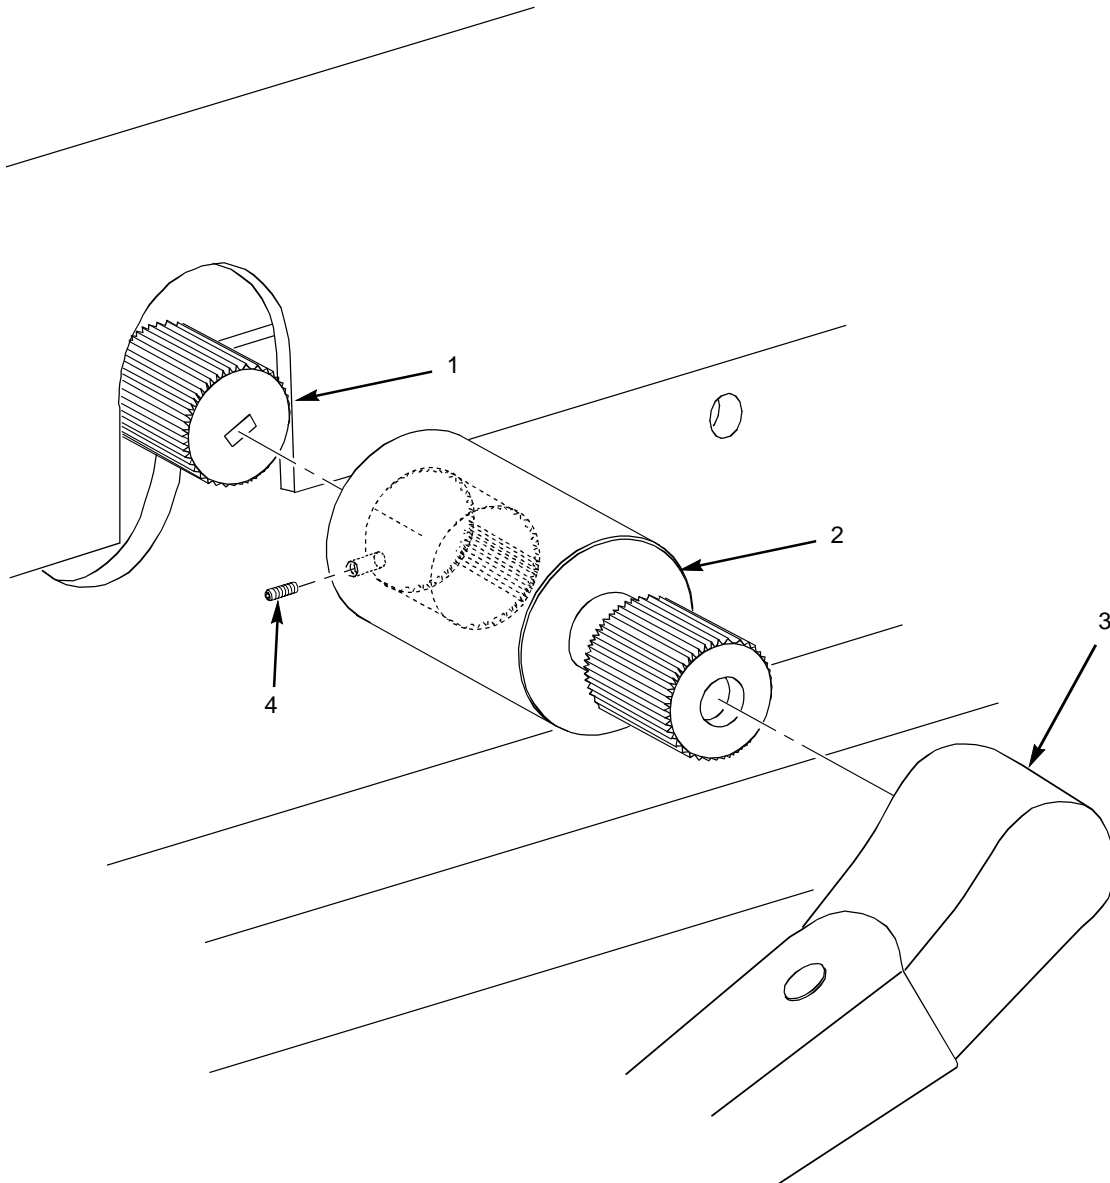

Figure 1-29. Wiper Arm Extension Installation (2 and 4 Door)
- 5) Install wiper arm extension as follows (see figure 1-29).
- a. Install wiper windshield arm (3) onto splines of wiper arm extension (2).
- b. Align and install wiper arm extension (2) with wiper windshield arm (3) onto manual control lever spline (1) with the wiper blade in the OFF position. Do not tighten set screw (4). Operate the ON/OFF wiper blade switch to ensure proper wiper blade arc. Tighten set screw (4).